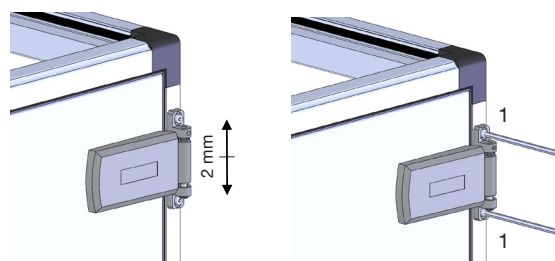

Figure 38
3.21.2 Hinge movement on the AHU housing (Figure 38)